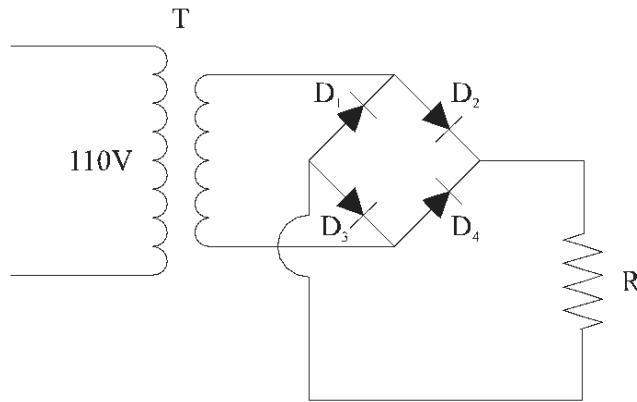
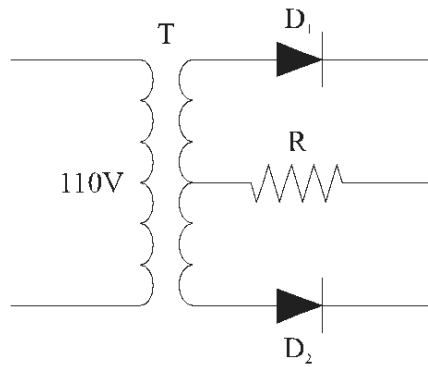

Figure 7-1-2. Full-wave rectifier circuit (bridge).
Figure 7-1-3. Full-wave rectifier circuit using center tapped transformer.
4. Mount the circuits shown in Figure 7.1.2 and Figure 7.1.3 and repeat the procedure outlined in steps 2 and 3.